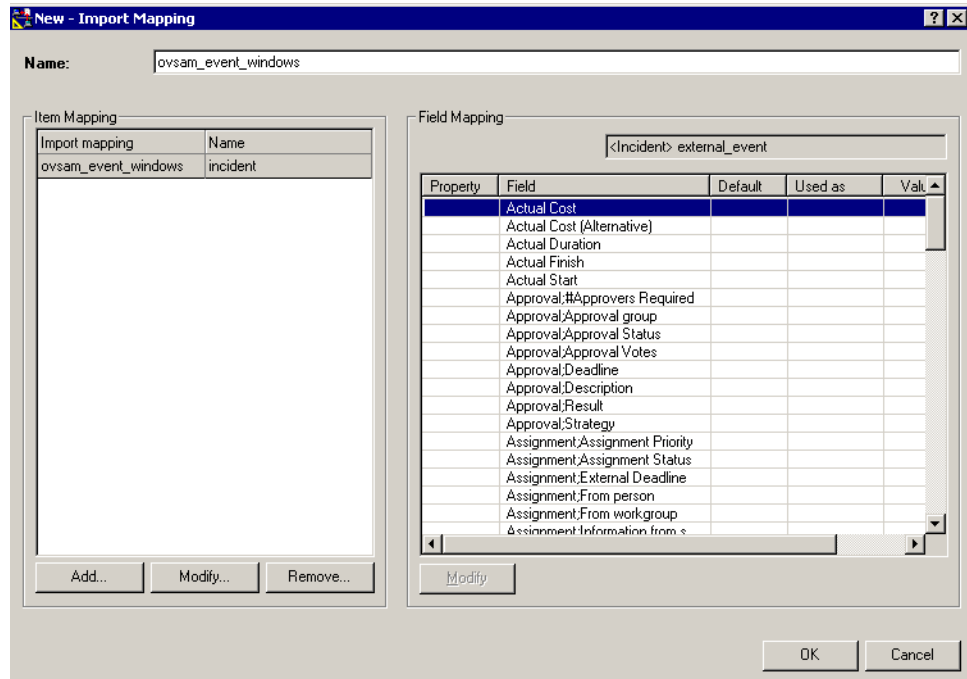

Figure 31: New Import Mapping Window for Forwarding Events from OVO Windows to Service Desk
16. Click **OK** in the Field Mapping - Impact window to store the field mapping created for the Impact field and click **OK** in the New Import Mapping window shown in Figure 31 to store the newly created import mapping.